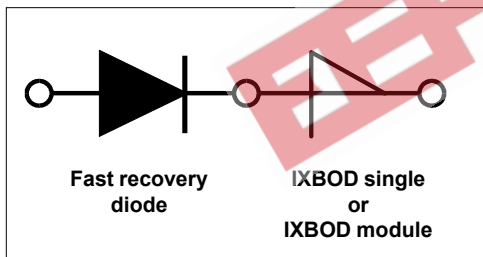
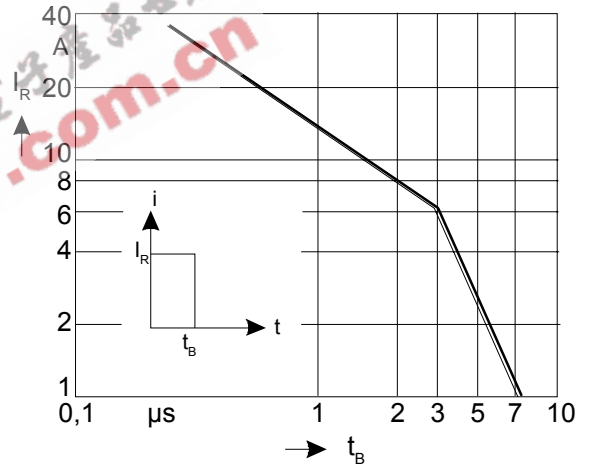

Fig. 9 IXBOD protection by a fast recovery diode.
Fig. 10 Maximum peak value of the reverse current admissible for a given pulse-width t_B , which is required for the suitable fast recovery series-diode.
2. For higher reverse voltages a fast, soft recovery diode must be connected in series (Fig. 9). This diode must fulfill the conditions of Fig. 10.